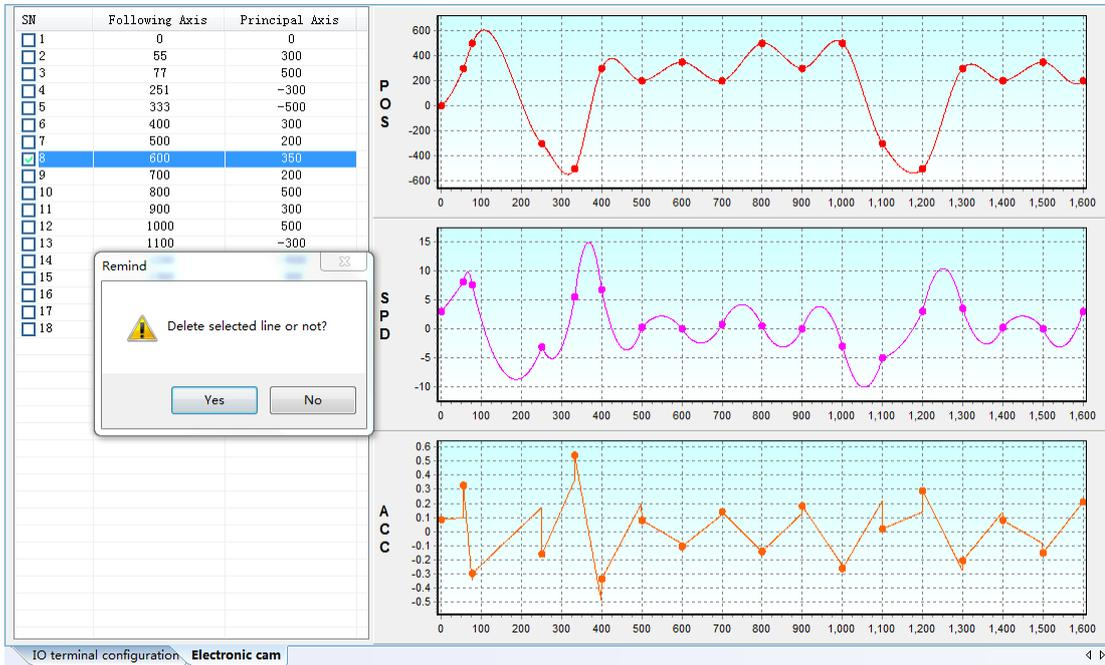

Fig 3-1-27 Delete multi-row
(2) Delete selected row: click serial number box to select row, right click to select [Delete number-selected row], click [YES]. (Fig 3-1-27)